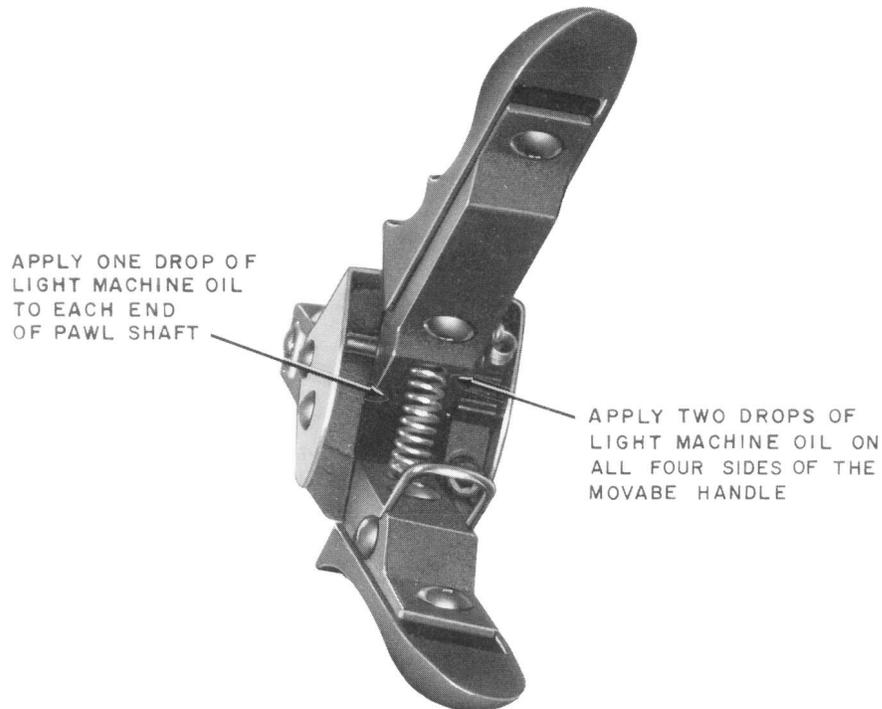

Fig. 2—D Connector Presser—Lubrication
- (a) Hold the tool vertically with the presser head down and apply two drops of oil to the bottom portion of all four sides of the movable handle (Fig. 2). Allow sufficient time for the oil to seep down to the linkage and the pivot pin.